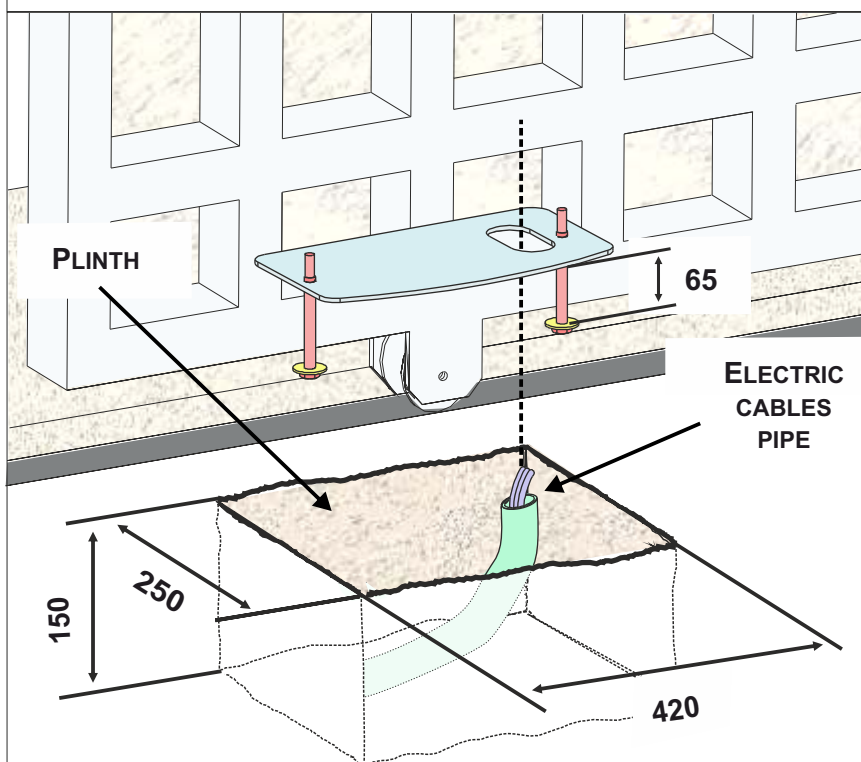

Fig. 3
4.1. Prepare a concrete basement according to the dimensions shown in Fig. 3; The foundation plate and the anchor bolts must be concreted inside the basement